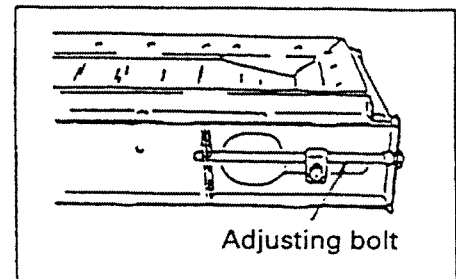

Fig. 1
- a. Turn the adjustment bolt in Fig. 1 to adjust the tension.